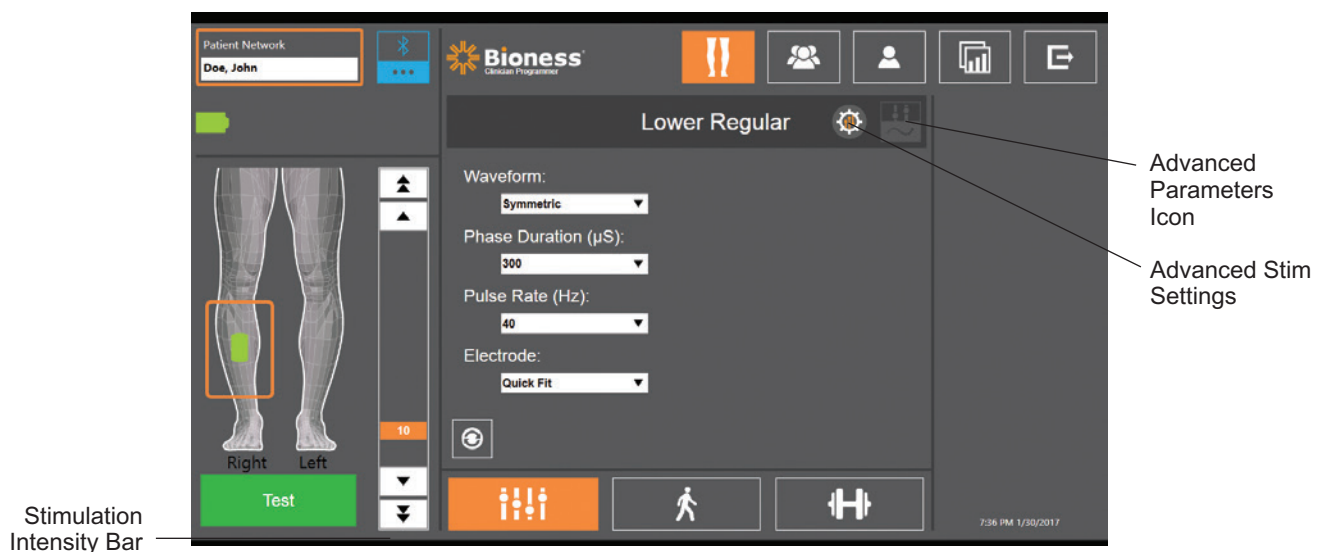
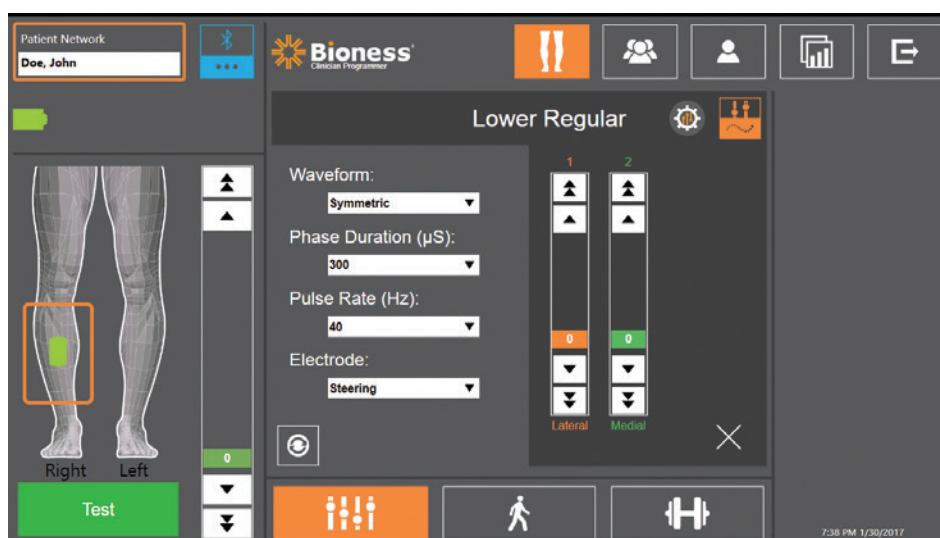

Figure 9-3: Programming Stimulation, Stim Screen
Figure 9-5: Programming Stimulation, Stim Screen with Advanced Parameter Window
3. The screen will show the linked EPG(s) as a green icon on the associated leg(s) on the left side of the Program Settings Screen. See Figure 9-3.
6. For new patients make sure the Stimulation Intensity Bar is set to 0. See Figure 9-3.
- From the Programming Stimulation Screen, press the Advanced Stim Setting icon (see Figure 9-3) to open the Advanced Stim Settings Window. See Figure 9-4.
If the patient is using the Steering Electrode make sure the Electrode drop down menu is set to Steering Electrode, this will enable the Advanced Parameters icon. Press the Advanced Parameter icon (see Figure 9-3) to open the advanced parameter window. The clinician can then adjust the medial and lateral stimulation intensity for the lower leg EPG. See Figure 9-5.